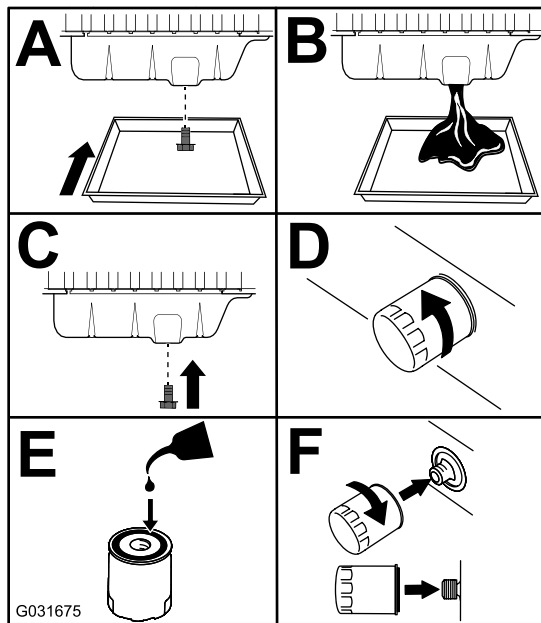

Figure 54
3. Replace the engine oil and filter (Figure 54).